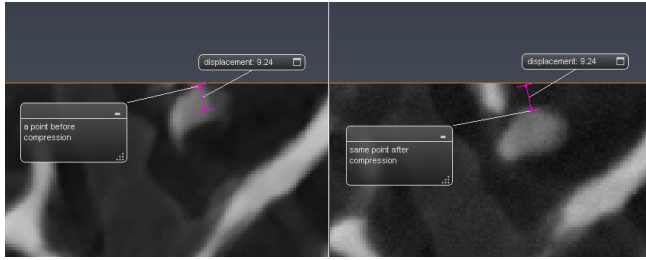

Figure 19.7: Displacement Measurement between the two ortho slices
- The maximum displacement should be around 10 (see Figure 19.7).